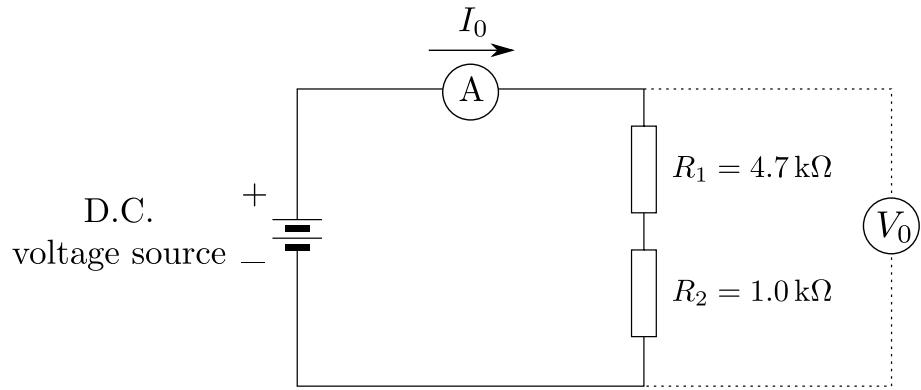

Figure 4: Resistors in series.
- Connect the circuit shown in Figure 4 with two resistors in series.
- Reconnect the circuit shown in Figure 4, but now measure the voltage \$V_2\$ across the \$1.0\text{ k}\Omega\$ resistor instead of across the two resistors in series.
Logbook 2.3 Copy Figure 4 into your logbook, leaving out the voltmeter and ammeter. Indicate on this diagram the two points at which you would connect a component that requires a voltage of:
- Reconnect the circuit shown in Figure 4 with the fixed 10 V voltage source, but now measure the voltage V_A across the ammeter. Set the ammeter to the 20 mA range.